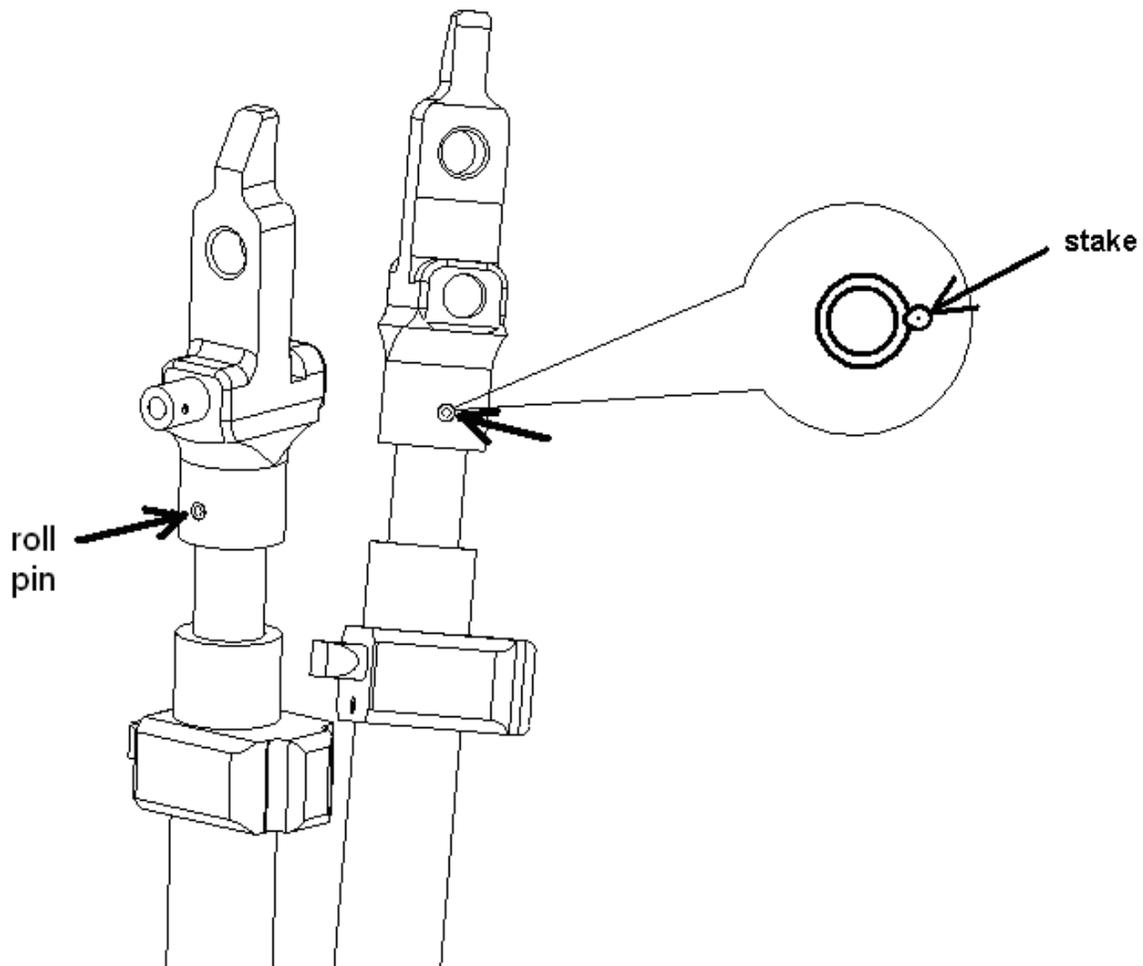

Figure 5.
e. **Replace Roll Pins (Figure 5).**
- (1) Using 1/8" (.125") punch and 8 oz. hammer, tap out roll pins from bipod legs. Discard roll pins.